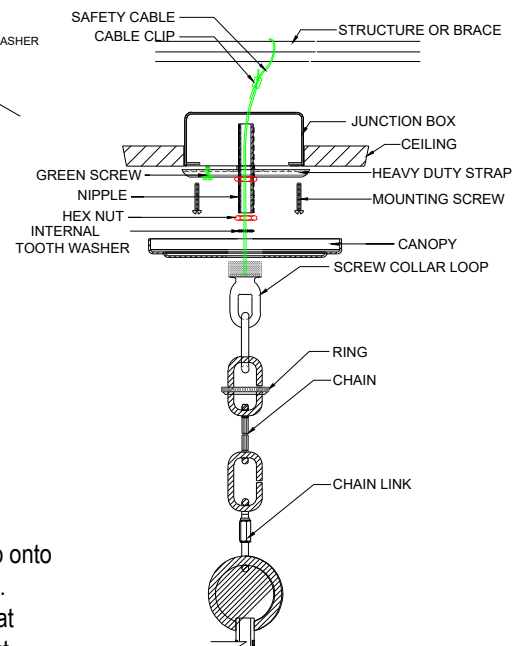

FIGURE-02
1. Attach the heavy duty strap onto the junction box (the green screw should face the floor). Then attach the SAFETY CABLE to the building structure or brace. (SEE FIGURE-02)